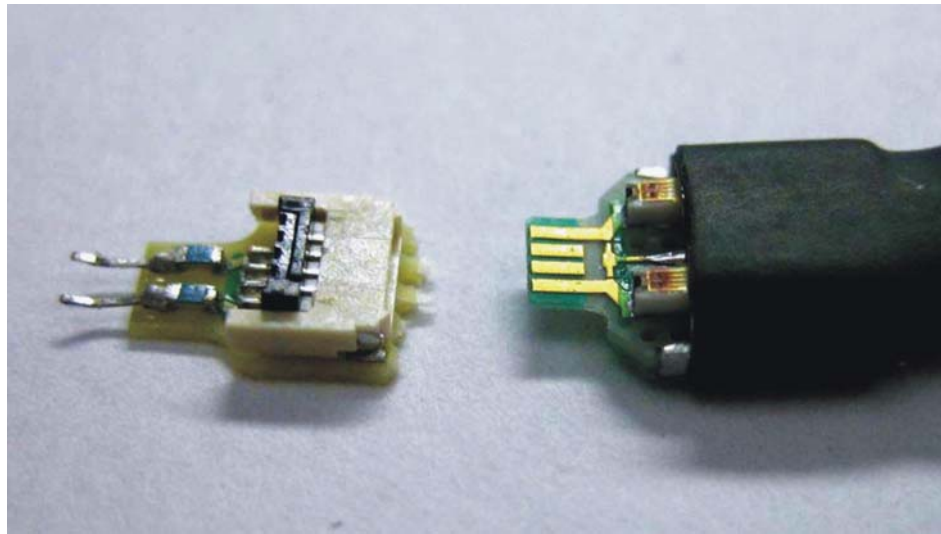
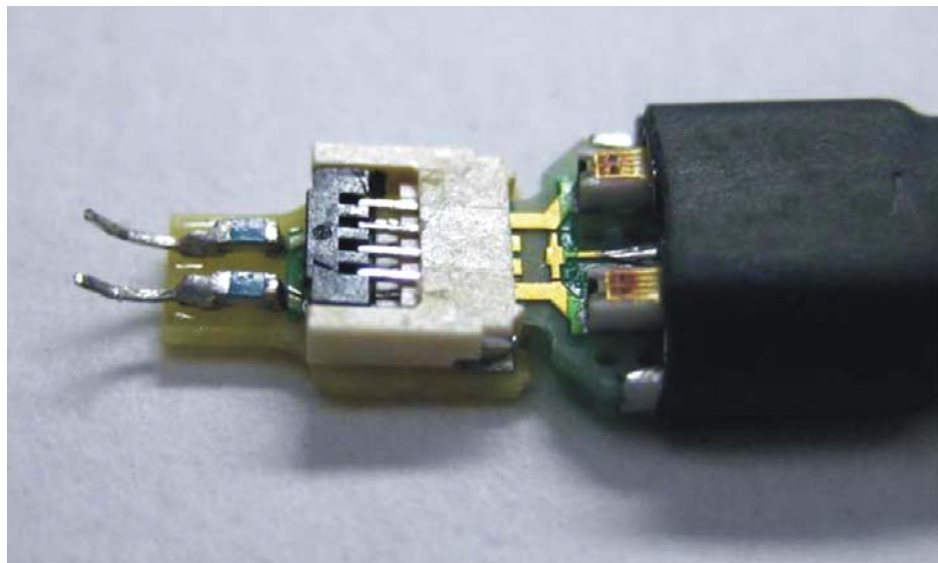
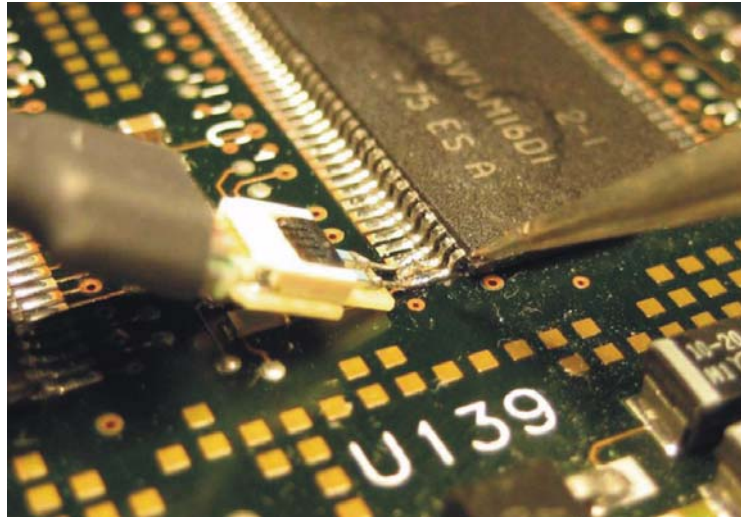

Figure 2-30 ZIF tip (open position) and ZIF probe head
Figure 2-31 ZIF tip (closed position) with ZIF probe head inserted
Figure 2-36 ZIF tip positioned and soldered in place
A close-up of the ZIF tip and the ZIF probe head before the probe head is inserted into the ZIF tip is shown in Figure 2-30. Note that lever on the ZIF tip is shown in the open position (pointed up) which allows the insertion of the probe head contacts into the ZIF tip with zero insertion force.
A close-up of the ZIF probe head inserted into the ZIF tip is shown in Figure 2-31. Note that now the lever on the tip is in the closed position (down, rotated 90 degree to the left) which closes the contacts of the ZIF connector.
- 4 Installation of ZIF tip. Connect the ZIF tip to the ZIF probe head as shown in Figure 2-30 and Figure 2-31. This allows the probe to be used as a handle for the ZIF tip to allow positioning in the DUT. Position the lead wires on the target points and then briefly heat the solder joints. There should be enough solder to form a good fillet and enough flux to make the joint shiny. There should not be so much solder that the big solder ball is formed that could cause a solder bridge or overheat the leads on the ZIF tip. This is shown in Figure 2-36.